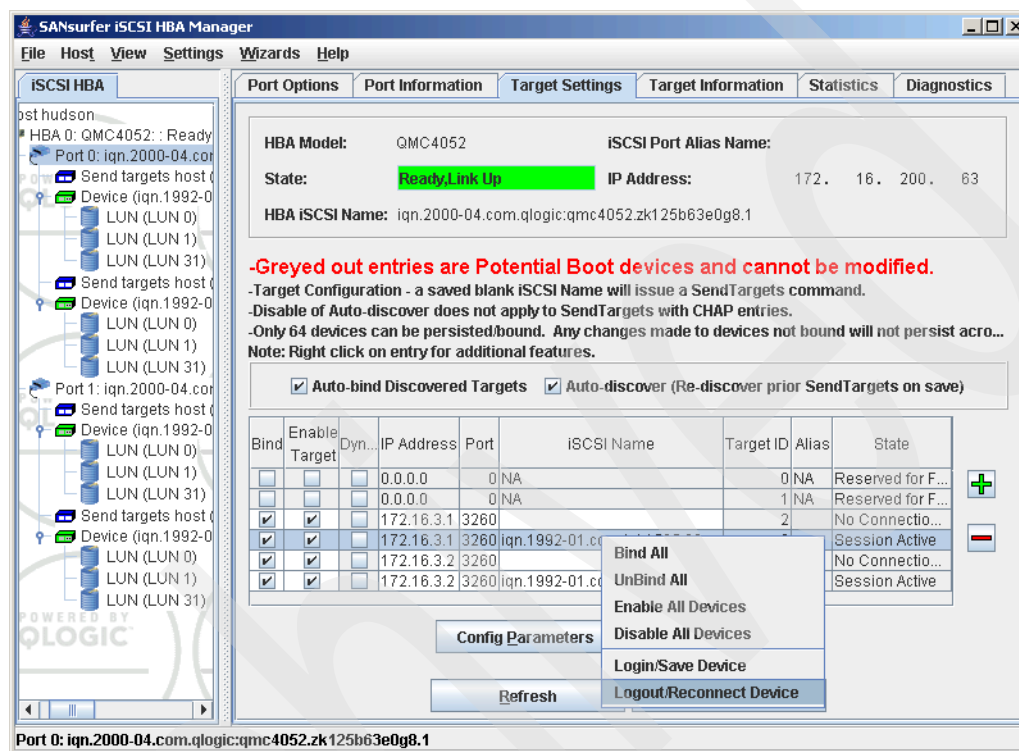

Figure 21-53 SANsurfer - Logout from target
1. Stop any applications that may be accessing the logical drives of the DS3300. Log off from all targets connected to an initiator port. To log off, open SANsurfer and select the initiator port 0. The Target Settings tab shows two iSCSI targets with an status of Session Active. Right-click the first one and select **Logout/Reconnect Device** from the context menu, as shown in Figure 21-53.